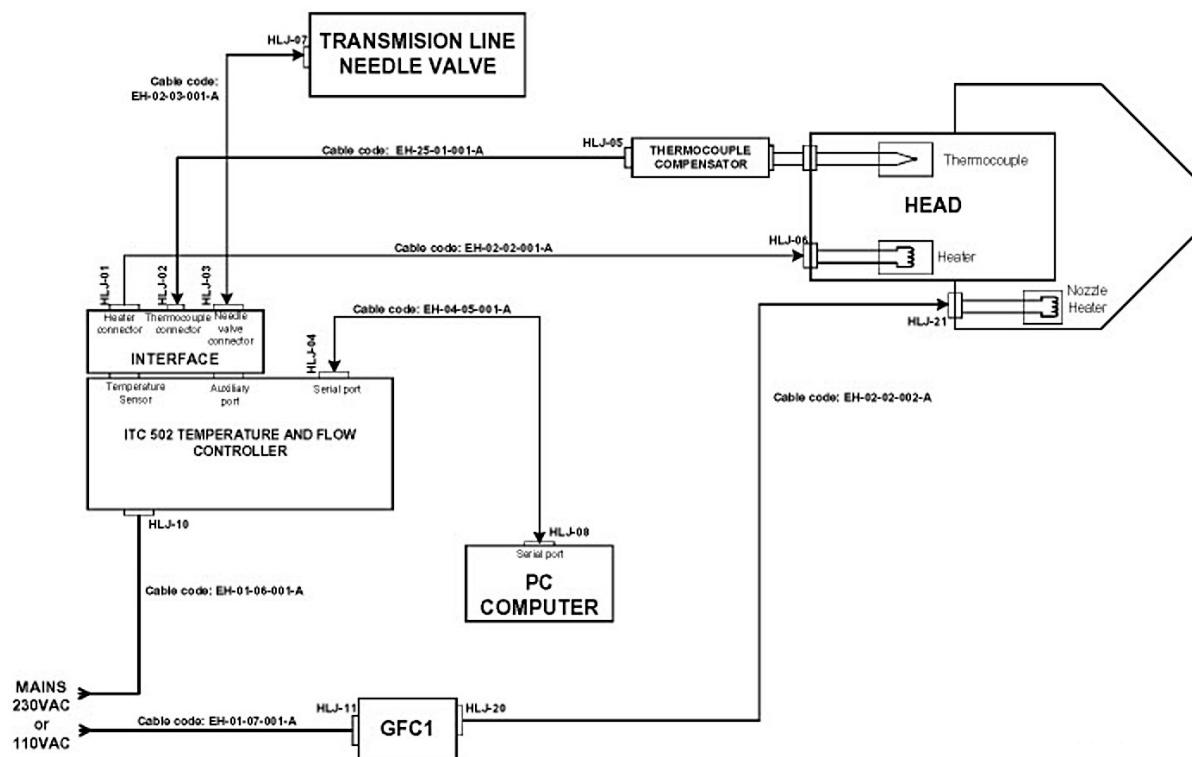

Figure 6-1 Helijet Electrical Connections
1. Ensure that the ITC temperature controller is connected correctly (see Figure 6-1 Helijet Electrical Connections).
Ensure that all electrical connections are made as described in Figure 6-1 Helijet Electrical Connections and that the power is on to both the ITC and the GFC1. Ensure that all Teflon tubes